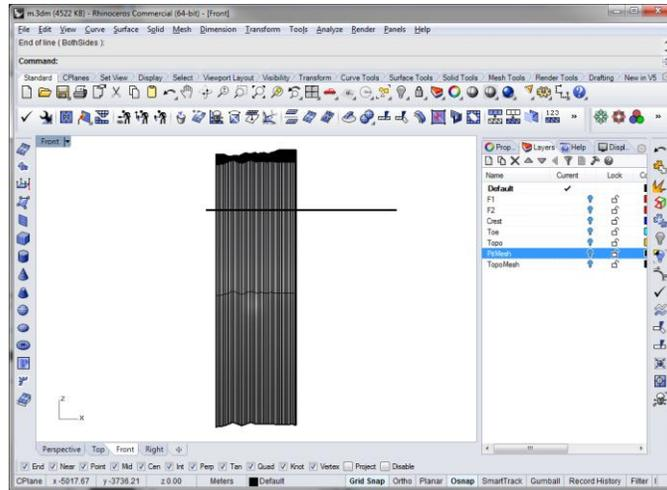

Figure 155: Creating a horizontal trimming line.
1. **Delete** the TopoMesh boundary **curve**. Select the **Front View**, and click on the **Zoom Extents**. **Curve|Line|Single Line**, enter **-400,-500** for the first point of the line. Then, **hold down <SHIFT>**, and click somewhere far right of the window to create a perfectly **horizontal** line (Figure 155).